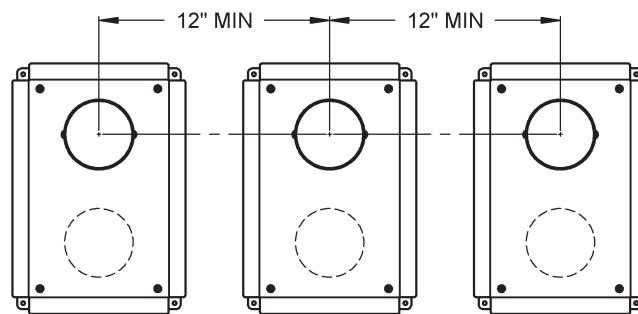

Figure 14: Minimum separation for multiple vent installation, vertical orientation
- Multiple vent SST installations must be installed level with one another and maintain at least the minimum separation distances shown in Figure 14 and 15. The Terminals shall not be stacked vertically.